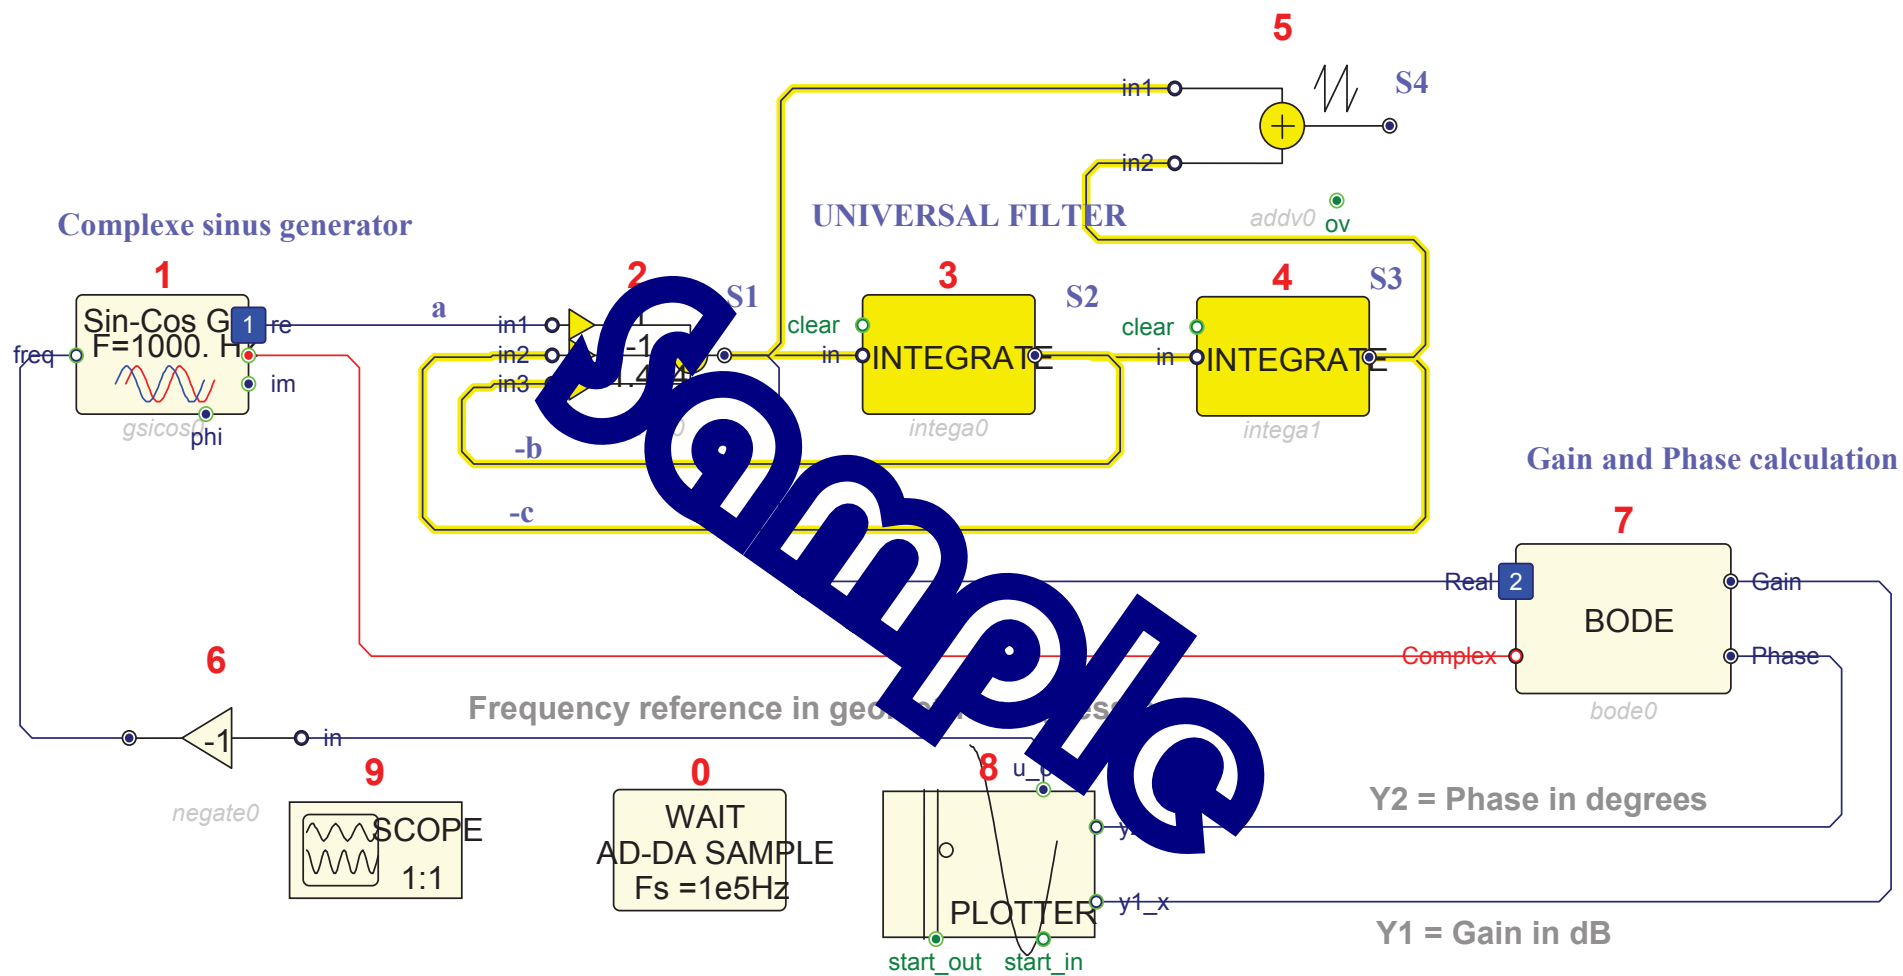

fig.7
- Realize the diagram of figure 7 and take down the Bode diagrams of different transfer functions, compare them with the 8 to 11 figures' diagrams.